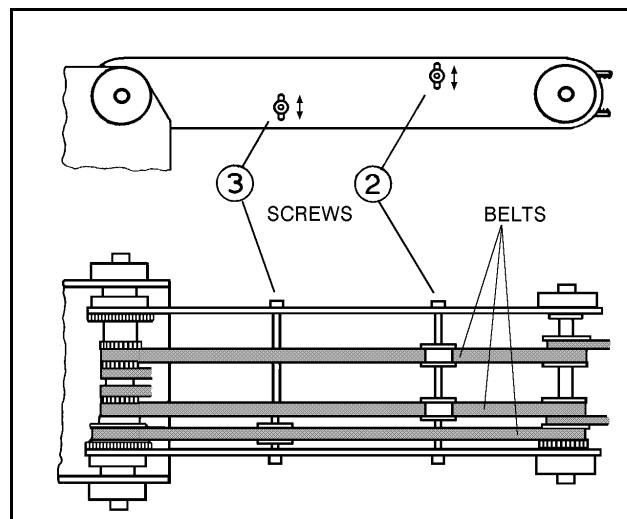

Figure 8-8: Tightening Belts in Upper Arm
- Figure 8-8 shows how to tighten the belts in the upper arm which move the wrist axes (2), and the belt which moves the elbow axis (3).